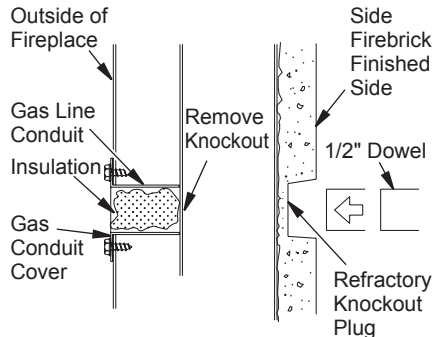

Figure 18 - Gas Line Knockout
1. Remove knockout indentation on refractory or firebrick wall located above the refractory hearth floor. The knockout indentation must be firmly tapped with any solid object such as a 1/2" dowel until it is released. Remove fragmented portions of refractory (see Figure 18).